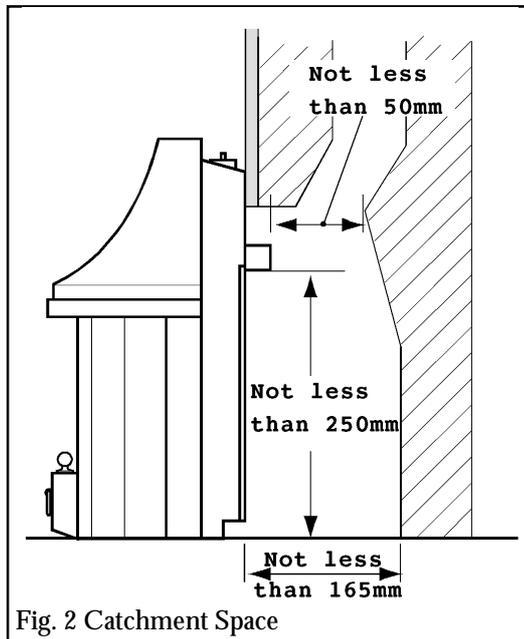

Fig. 2 Catchment Space
2.13 The flue spigot and any spigot extension must be capable of passing through the closure plate by a least 25mm with a minimum clearance of 50mm between its open end and the nearest obstruction. There must also be a minimum clearance of 165mm between the back of the closure plate and the back of the catchment space (Fig.2). The catchment space below the flue spigot must extend at least 250mm downwards measured from the bottom of the flue spigot (Fig.2).